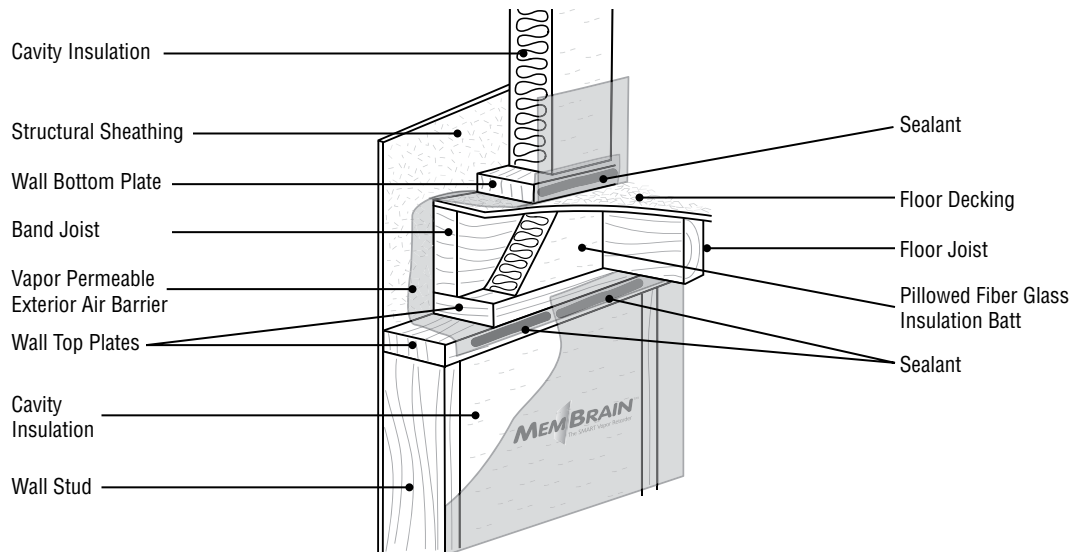

Figure 17: Detail B – MemBrain™ Air Barrier System interior floor intersection details.
4. Apply recommended sealant over ceiling overlapped film material at the top plate, to the frame around window and door rough openings and to the bottom plate (See MemBrain™ Air Barrier System Details, and Figure 17, page 10). Working towards the opposite corner, pull the sheet tight, and staple the offset edge to the top sill plate through the sealant bead. Staples should be at least 12 to 24 inches apart.